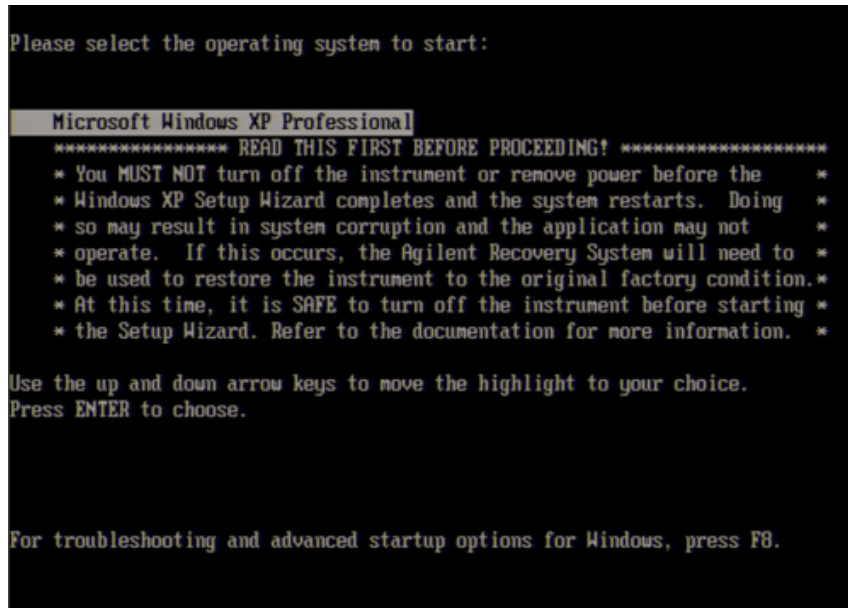

Figure 6 System start up screen in Windows Vista Business (1/2)
Step 2. The screen as shown in the Figure 6 appears. Select **Microsoft Windows XP Professional** and press **[Enter]**.